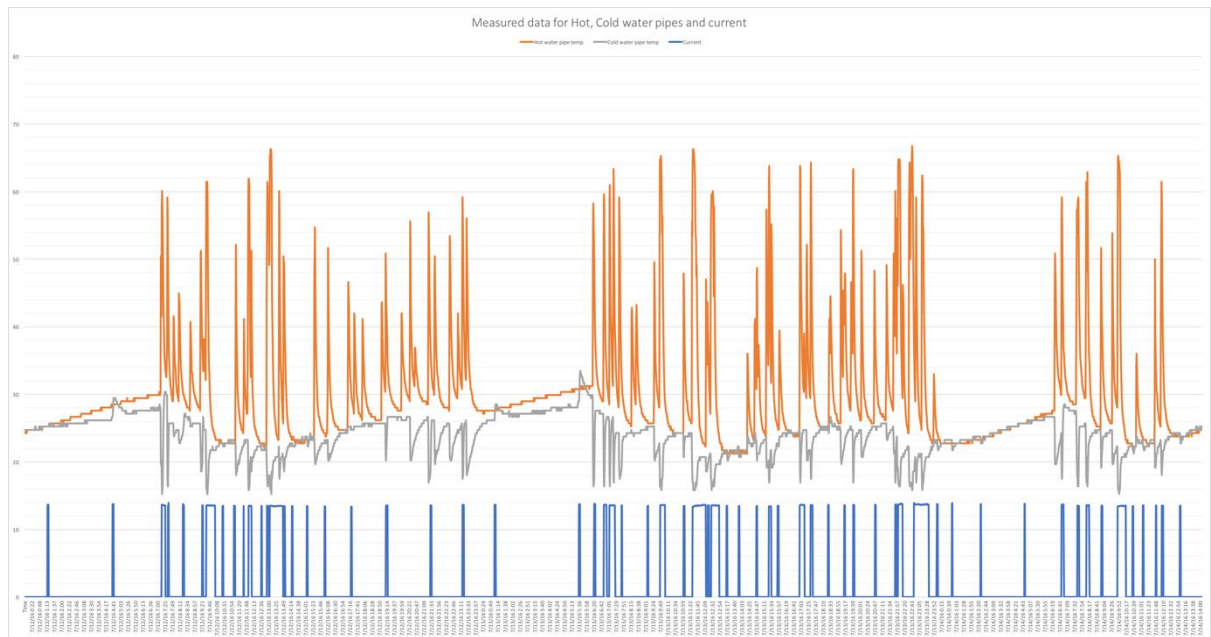

Fig. 2
- The water heater model should be validated against measured data (fig. 2).